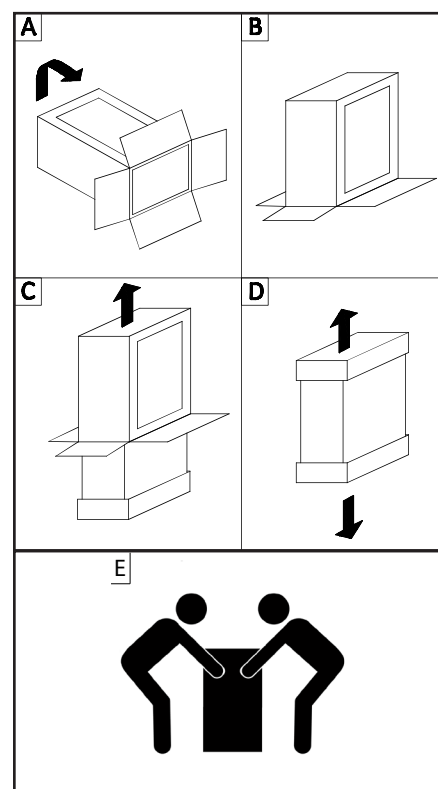

Figure 3.1 - Unpacking the Boiler
- Place the packed appliance on the floor (see fig. 3.1) making sure that the unit is in its upright position. Open out the four flaps of the box.